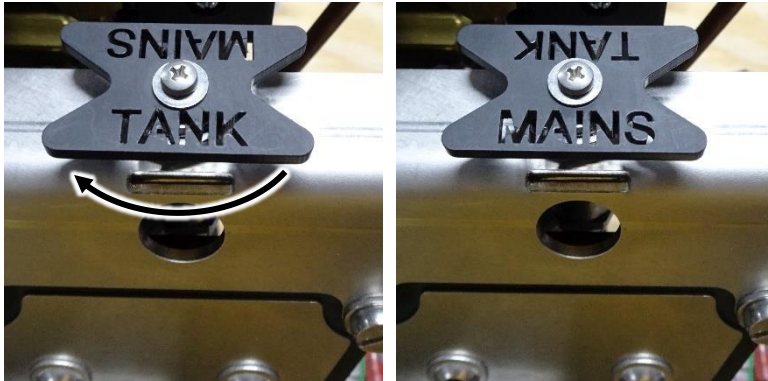

Figure 4. Change feed-valve position from TANK to MAINS.
- Remove right side panel and tank and then turn water feed valve from TANK to MAINS (see Figure 4).